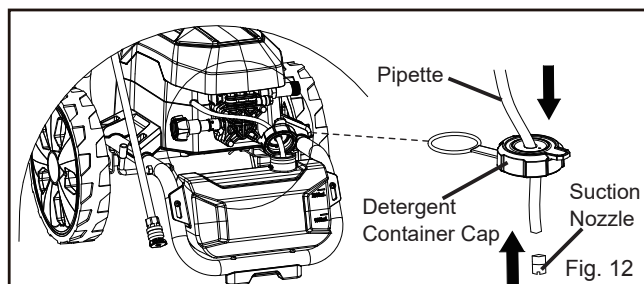

Fig. 12
- Insert the pipette into the detergent container cap and then insert the suction nozzle into pipette (Fig. 12).